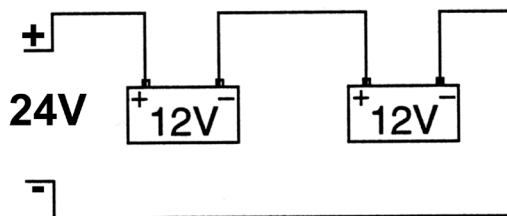

fig.5
- 4.5.1. Simultaneous multiple charging should be carried out in series, since this enables monitoring of the current circulating in each battery. See fig.5.